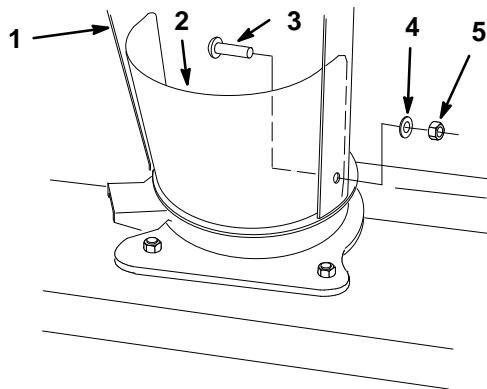

Figure 4
7. Install discharge chute and deflector shield onto housing with (3) 5/16 x 3/4" carriage bolts (heads to inside), (3) 5/16" washers and (3) 5/16" locknuts (Fig. 4).